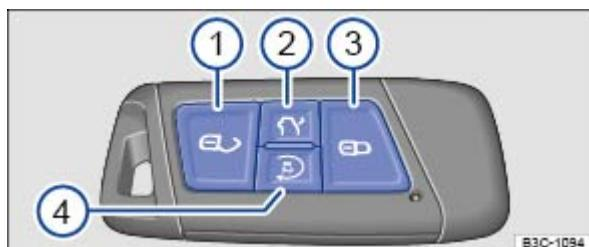

Fig. 110 Remote control vehicle key with remote start button.
In some vehicles, you can start the engine from outside of the vehicle with the remote start button → Fig. 110④ on the remote control vehicle key. This feature helps to cool or warm the passenger compartment to about +68 °F (+20 °C) → .
- Press the button on the remote control vehicle key 1 time ⇒ Fig. 110③.
- Within the next three seconds, press the button twice in a row ⇒ Fig. 110④.
- Press the  button ⇒ Fig. 110④ or the panic button in the vehicle key to switch the engine off.